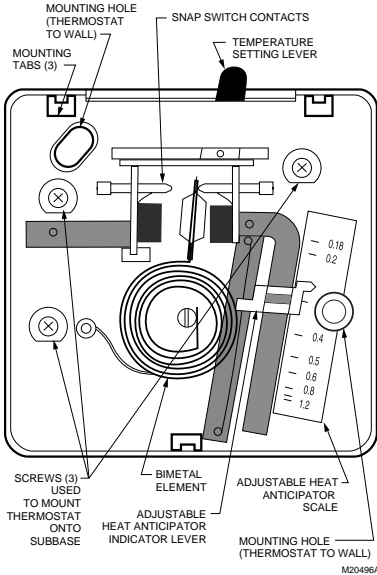

Fig. 1. Internal view of T812 with adjustable heat anticipator.
3. Disconnect thermostat from subbase by unscrewing the three screws under the thermostat cover. See Fig. 1.
9. Mount the thermostat to the thermostat subbase by tightening the three screws. See Fig. 1.